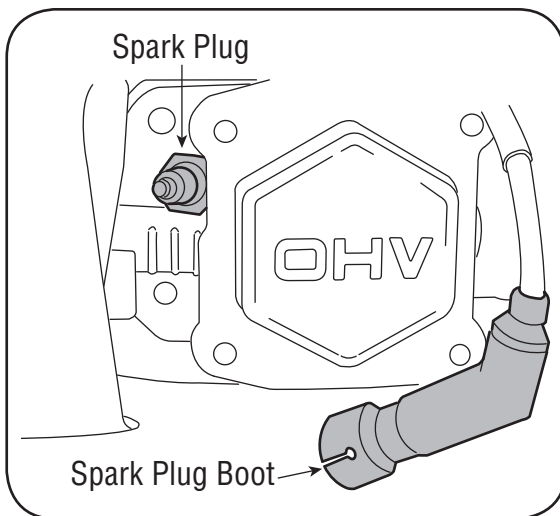

Figure 7
1. Remove the spark plug boot and use a spark plug wrench to remove the plug. See Figure 7.